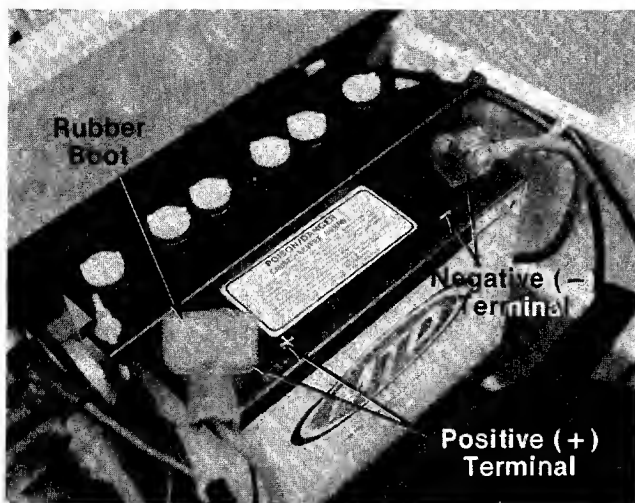

FIGURE 5.
- A. Remove the hardware from negative terminal. See figure 5.
- B. Fasten negative cable to negative (-) battery terminal with hardware provided. See figure 5.
7. Slide the rubber boot on the positive (+) cable down cable over positive (+) battery terminal. See figure 5.